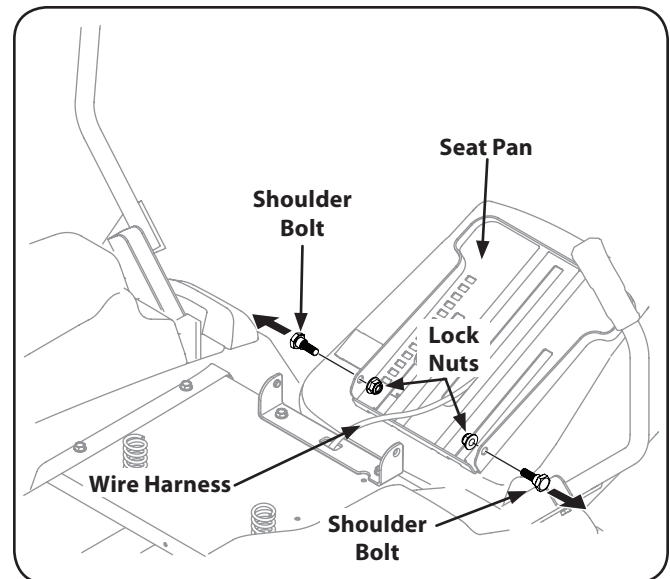

Figure 3-2
2. Remove the two shoulder bolts and lock nuts in the seat pan as shown in Fig. 3-2.